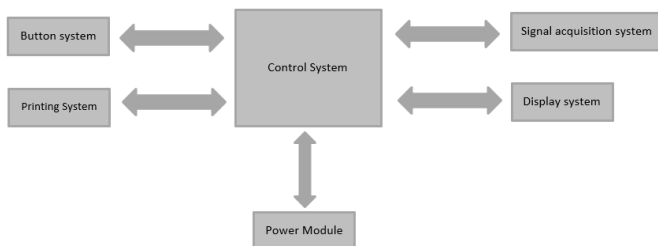

Figure 4-2 Control unit block diagram
b) The principle block diagram is shown in Figure 4-2